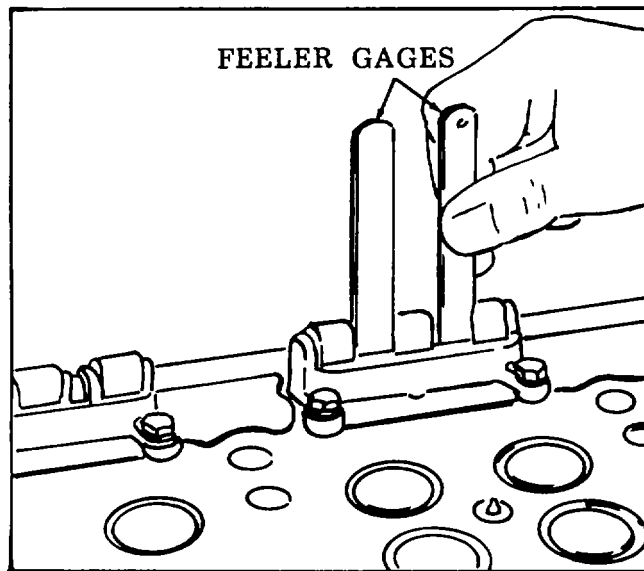

Figure 3-83. Checking Cam Follower to Guide Clearance.
- (2) Assemble three lower spring seats (4), three springs (3), three upper spring seats (2), and locknut on three push rods (5). Slide the three push rod assemblies in position from the bottom of the head. Install three spring retainers (1).
- (3) Note the oil hole in the bottom of the cam follower. With the oil hole directed away from the exhaust valves, slide the cam follower (9) in position from the bottom of the head.
- (4) Install cam follower guide (8) and secure with two lockwashers (7) and two screws (6). Torque screws to 12-15 lb-ft (16-20 Nm).
- (5) Install rocker arms per paragraph 3-36.
- (6) Install cylinder head per paragraph 3-38.
- f. Adjustment. (Refer to figures 3-83 and 3-84).
- (1) Check that there is at least .005 inch clearance between the cam follower legs and cam follower guide (figure 3-83).